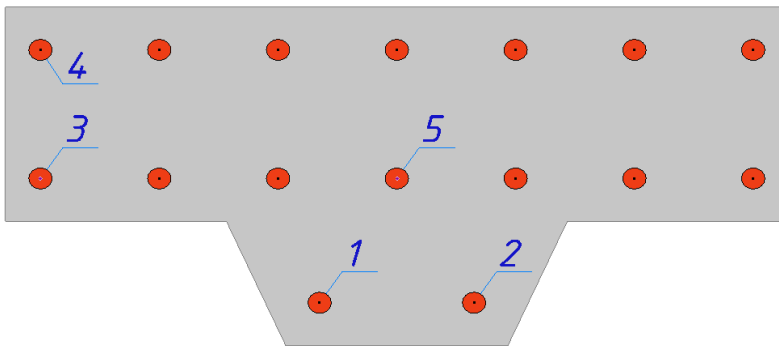

Figure 26.7. Section contour with inclusions (embedded reinforcement)
- ⇒ To delete the 5th inclusion (see Fig. 26.7), select it with the pointer and click **Delete** on the keyboard.